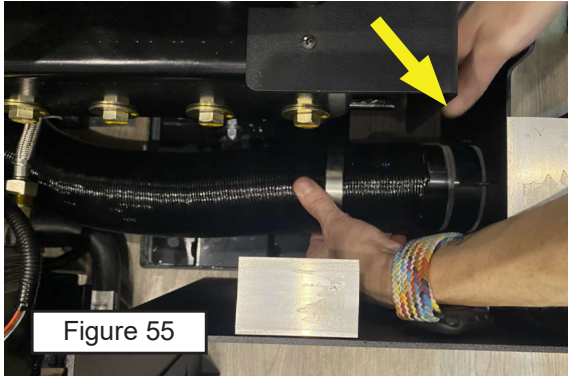
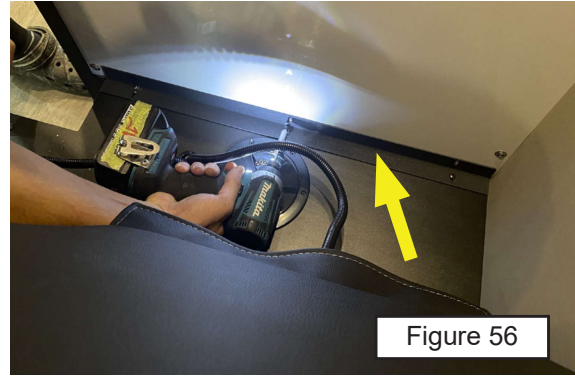

Figure 55
Figure 56
e. Position the air duct back on the side outlet of the seat shroud and use a 5/16" socket to secure the hose clamp inside of the seat shroud. (See Figure 55)
f. Pass the (2) loomed cables back through the top plate of the seat shroud, then connect back to the (2) seat harness pig tails. Test seat operation using switches on the driver side wall to ensure seats are connected to the proper connectors as labels on the wall switch.
g. Reposition the top plate back in place and install the (3) wafer head self-tapping screws back down through the panel, then re-install the (3) wafer head wood screws along the angled trim to the front face of the shower finish panel. (See Figure 56)